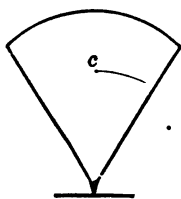

FIG. 70
2. *Unstable Equilibrium.* If a small disturbance *lowers* the center of gravity of a body, so that it tends to take a new position, it is in unstable equilibrium. Any body balanced on a point, with its center of gravity above that point, is in unstable equilibrium (Fig. 70).-